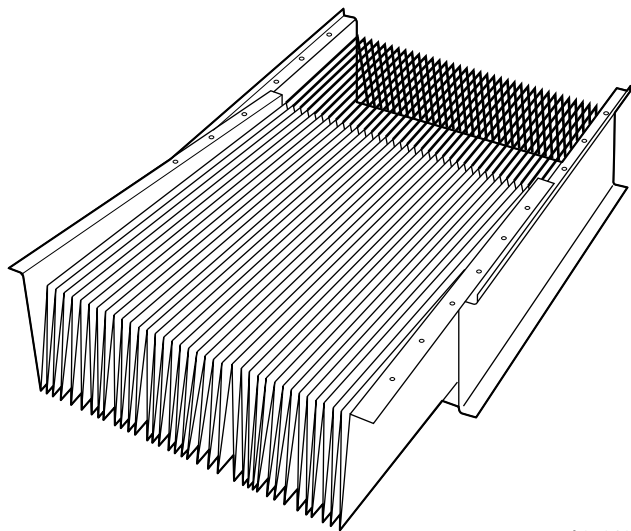

Fig. 5—Insertion of Pleated Media in Media Frame
4. When all pleats are started, slide media pack endwise into the wire media frame until holes in cardboard end seals line up with holes in side frames. Make sure pleat ends are even. Press pleated paper down gently on all areas of wire frame. (See Fig. 5.)